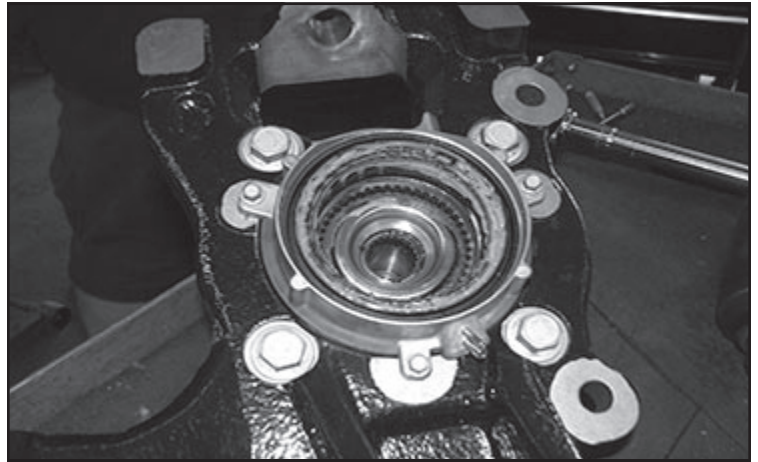

FIGURE 34 - STEP 34
34. Re-install the 4WD actuator using the 3 factory bolts. Torque to 29 ft-lbs. **SEE FIGURE 34**